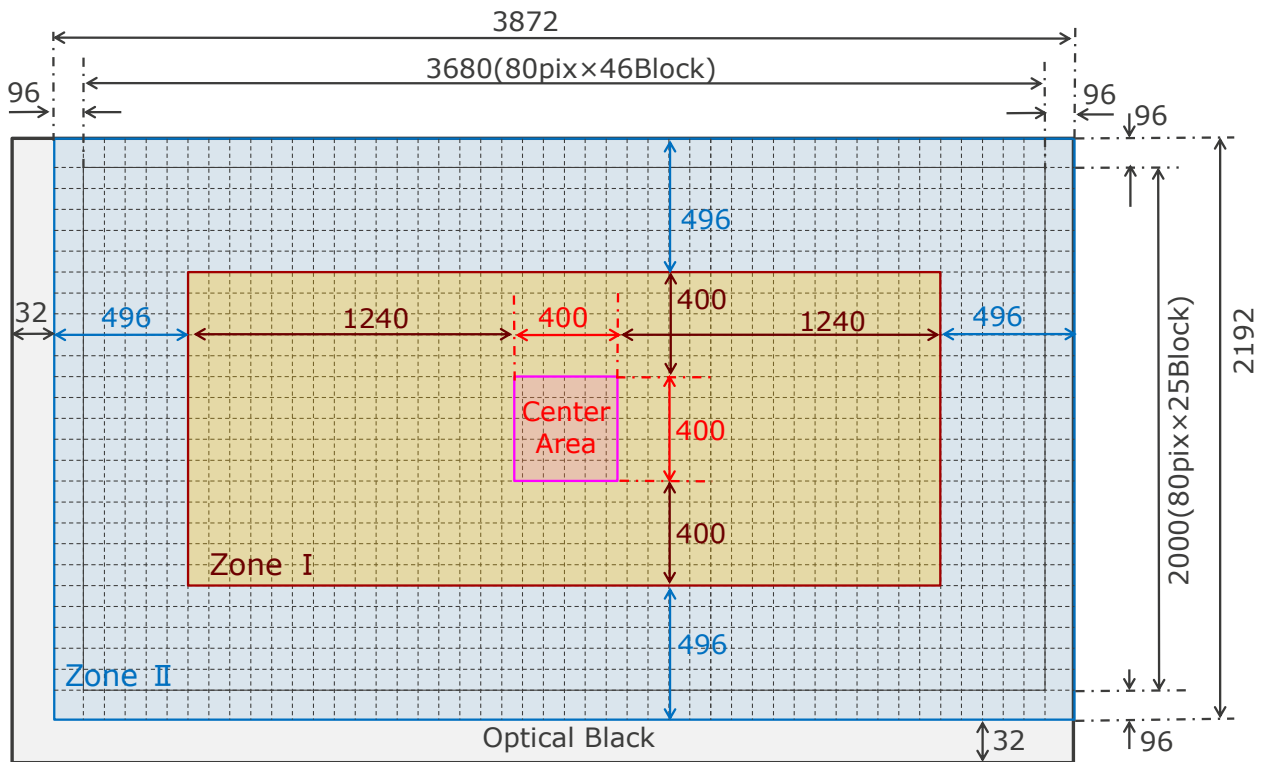

Figure 7 Pixel characteristics calculation area
center area : please refer to **Figure 7**.
- (1) ZoneII divide to 48×27 blocks. 1 block is 80×80, 96×96, 96×80 or 80×96 pixels. Please refer to **Figure 7**.
- (2) Averaging output data in a block, R/G/B respectively.
- (3)  $SHADE\_R/G/B=(MAX-MIN)/(Ave.@center\ area)$
- (1) ZoneII divide to 48×27 blocks. Please refer to **Figure 7**.
- (2) Averaging output data in a block, Gb and Gr respectively. -----  $AVE\_Gb/AVE\_Gr$
- (3)  $LINE\_C\_R/G/B=(AVE\_Gr-AVE\_Gb)/\{(AVE\_Gr+AVE\_Gb)/2\}\times 100$